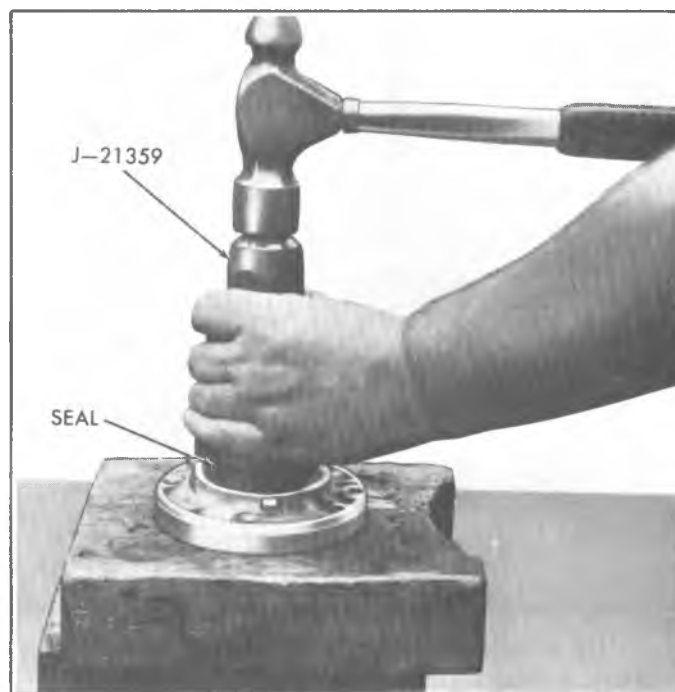

Fig. 15F—Installing Input Shaft Bearing Retainer Seal
3. Position new seal to retainer and install using tool J-21359 (Fig. 15F).